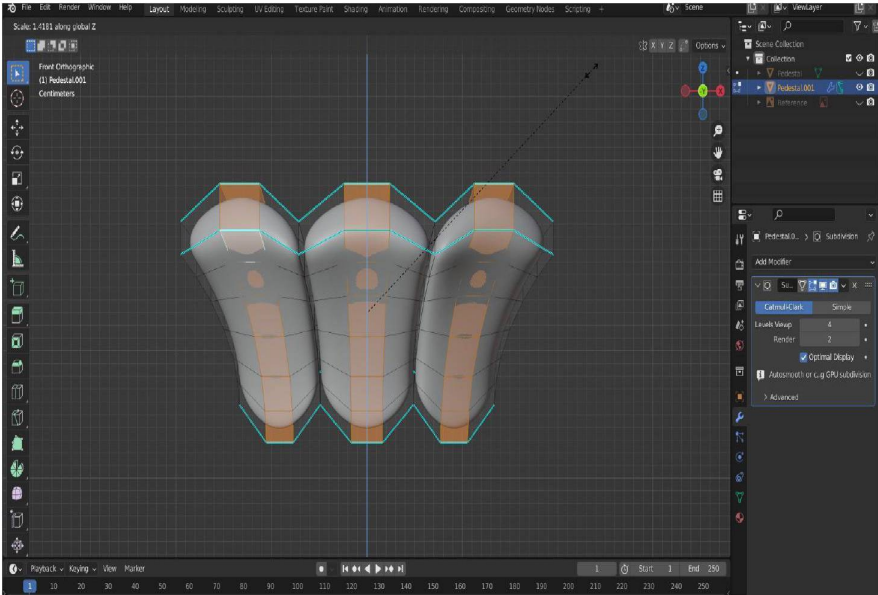

Figure 6.10: Scaling the leaf detail base meshes along the z axis
15. Press the **S** key to begin scaling, then press the **Z** key and move the mouse cursor upward to stretch the leaf meshes into an oblong shape along the z axis as shown in *Figure 6.10*: